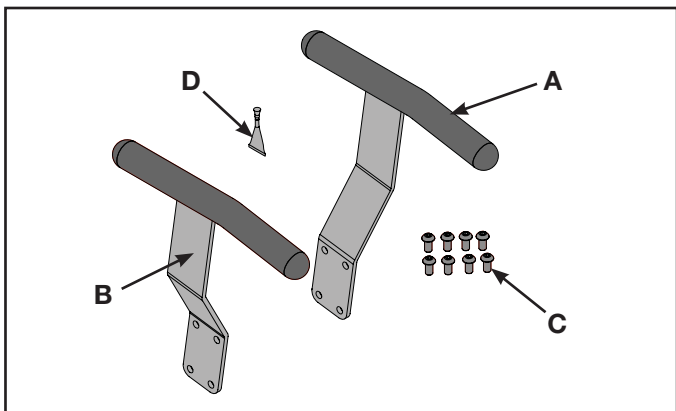

Figure 1
2. Verify kit contents. See Figure 1.
- A. Left side handle (1), 425A-217
- B. Right side handle (1), 425A-218
- C. BHSCS .375-16 x .75 blk zinc (8), HS-60531